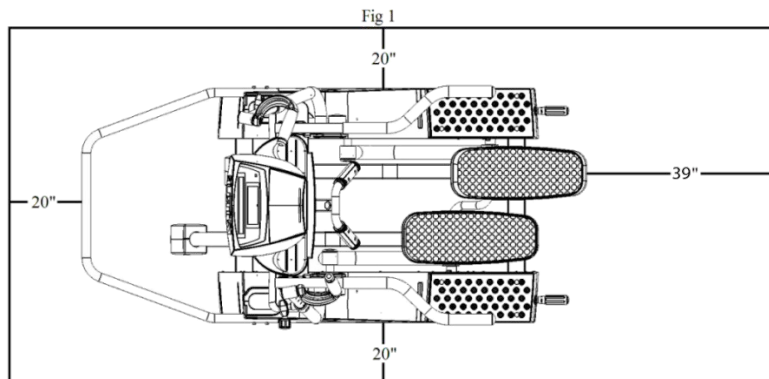

Fig 1
- TRUE's recommendation is to leave a 39" safety zone at rear of elliptical. The sides of the unit should be at least 20" away from the wall or obstructions. (See Fig 1)